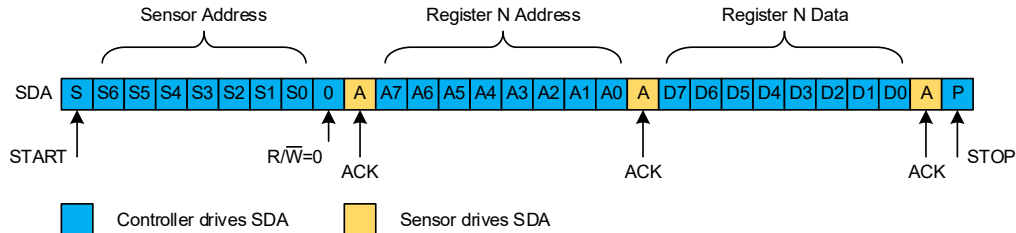

Figure 37: I²C Write Single
- In the third frame, the controller sends the 8-bit value to write in the register (Figure 37).